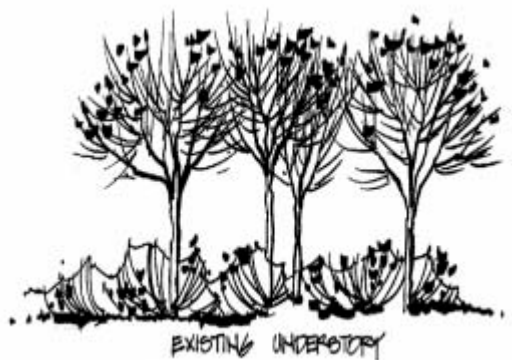

FIGURE 18-22
4.2.3 55.3 Trees left in clusters with existing understory increases a tree's chance for survival because the root system will be less affected as shown in Figure 18-22.